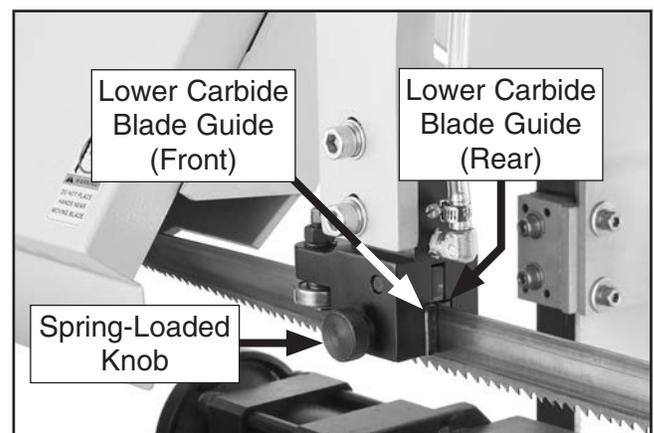

Figure 83. Lower carbide blade guides location.
8. On left blade guide, tighten spring-loaded knob until lower carbide blade guides (see **Figure 83**) are snug against blade, then back off knob 1/2 turn. DO NOT over-tighten knobs.